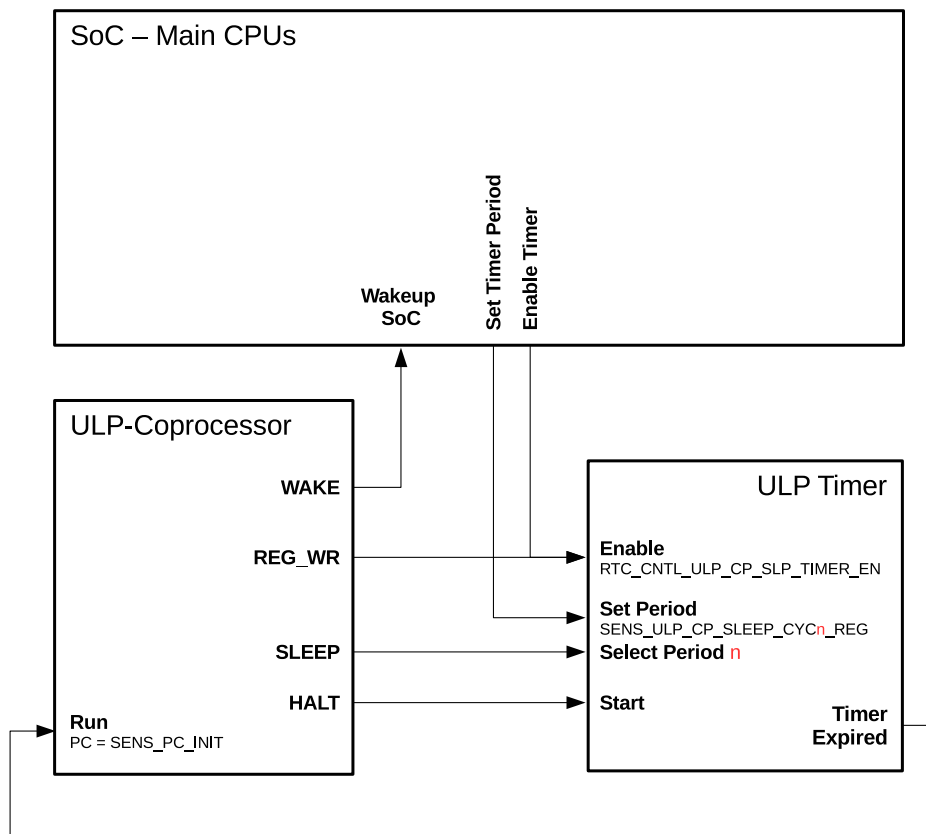

Figure 155: Control of ULP Program Execution
The ULP co-processor puts itself into sleep mode by executing the `HALT` instruction. This also triggers the ULP timer to start counting `RTC_SLOW_CLK` ticks which, by default, originate from an internal 150 kHz RC oscillator. Once the timer expires, the ULP co-processor is powered up and runs a program with the program counter (PC) which is stored in register `SENS_PC_INIT`. The relationship between the described signals and registers is shown in Figure 155.